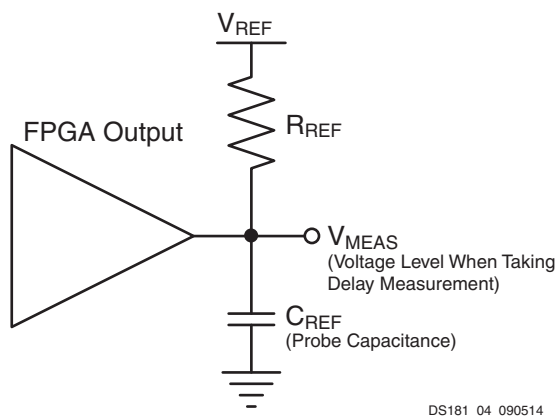
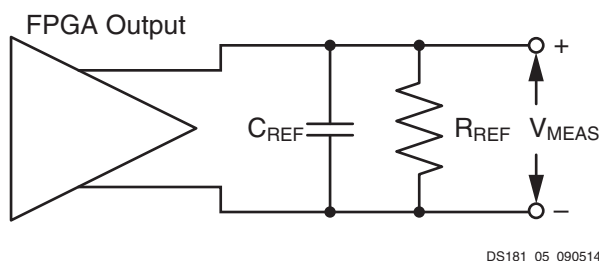

Figure 1: **Single-Ended Test Setup**
Figure 2: **Differential Test Setup**
4. This is an input voltage reference that bears no relation to the  $V_{REF} / V_{MEAS}$  parameters found in IBIS models and/or noted in Figure 1.
Output delays are measured with short output traces. Standard termination was used for all testing. The propagation delay of the trace is characterized separately and subtracted from the final measurement, and is therefore not included in the generalized test setups shown in Figure 1 and Figure 2.